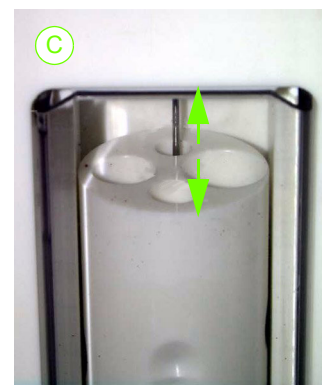

Fig.1: needle location
- ◆ Locate tube holder's smallest hole in sampling position (A) and close sampling door (See "Fig.1: needle location, page 2").
- ◆ Manually move down needle (B).
- ◆ Move the carrier to adjust the front/rear position of the needle in the hole (C) then press Enter.
- ◆ Locate centering tool (GBF055A) over the RBC and WBC chambers (See "Fig.1: needle location, page 2").